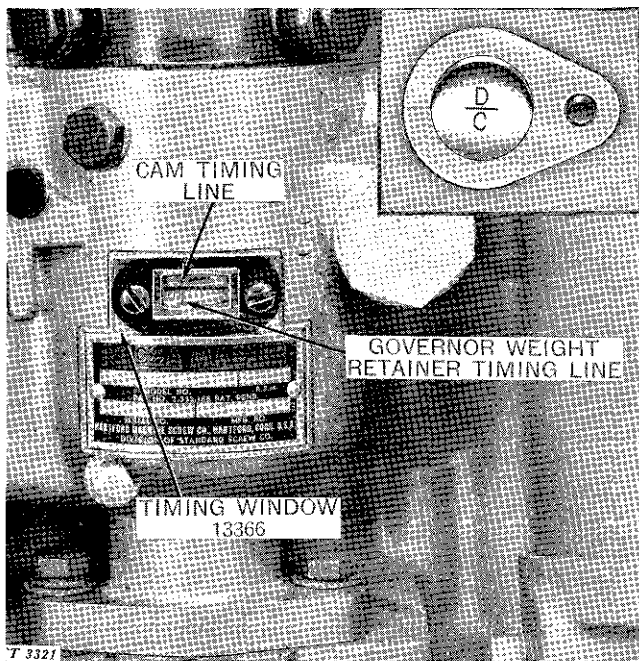

Fig. 40-10-10—Timing Lines
1. Uncover timing hole on clutch housing (Fig. 40-10-10).
2. Turn engine in direction of rotation (counterclockwise when viewed from flywheel end) until No. 1 piston is on a compression stroke and the "DC" mark on the flywheel rim aligns with timing mark on the clutch housing (Fig. 40-10-10).
3. Remove timing hole cover on injection pump housing and check to see if the timing line on the weight retainer hub aligns with the mark on the cam rim as shown in Fig. 40-10-10. If adjustment is required, loosen pump mounting bolts, and turn injection pump assembly by hand so that the timing marks line up, and retighten mounting bolts.